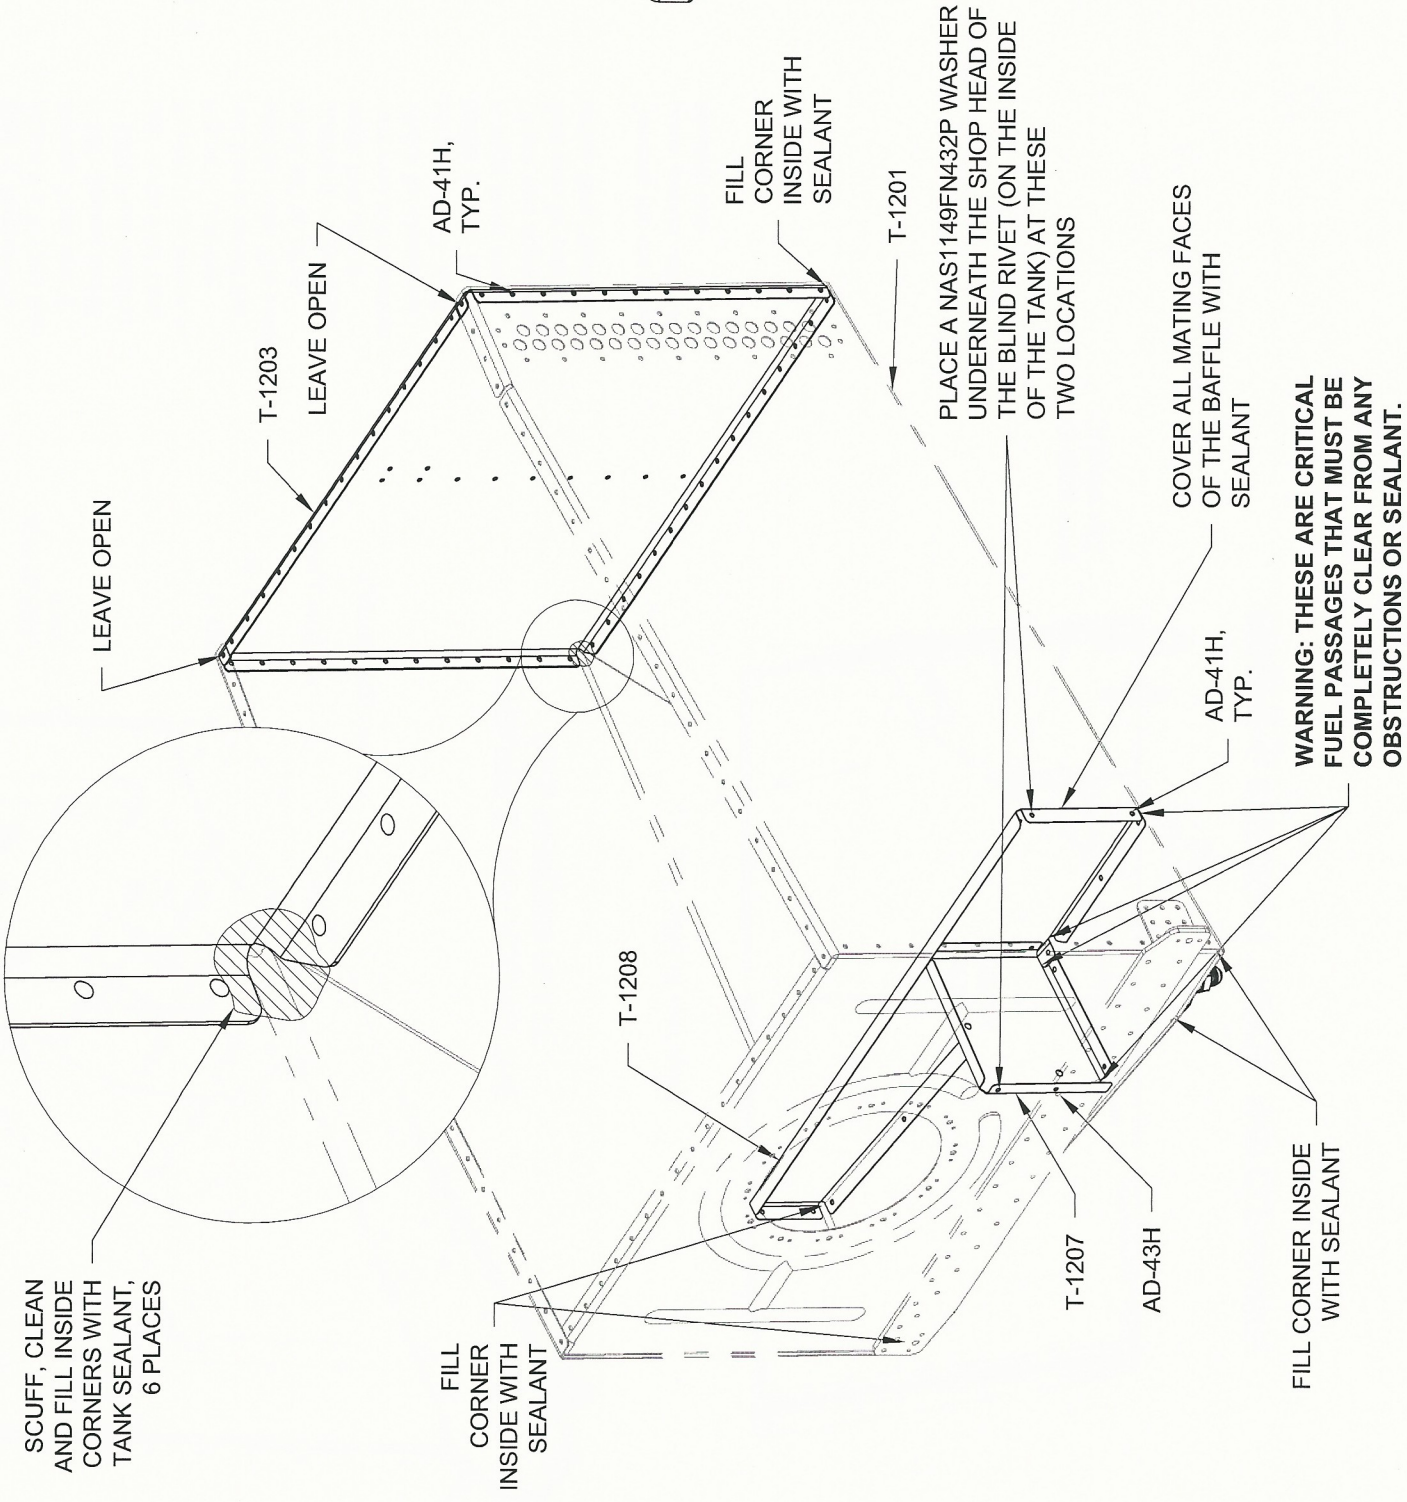
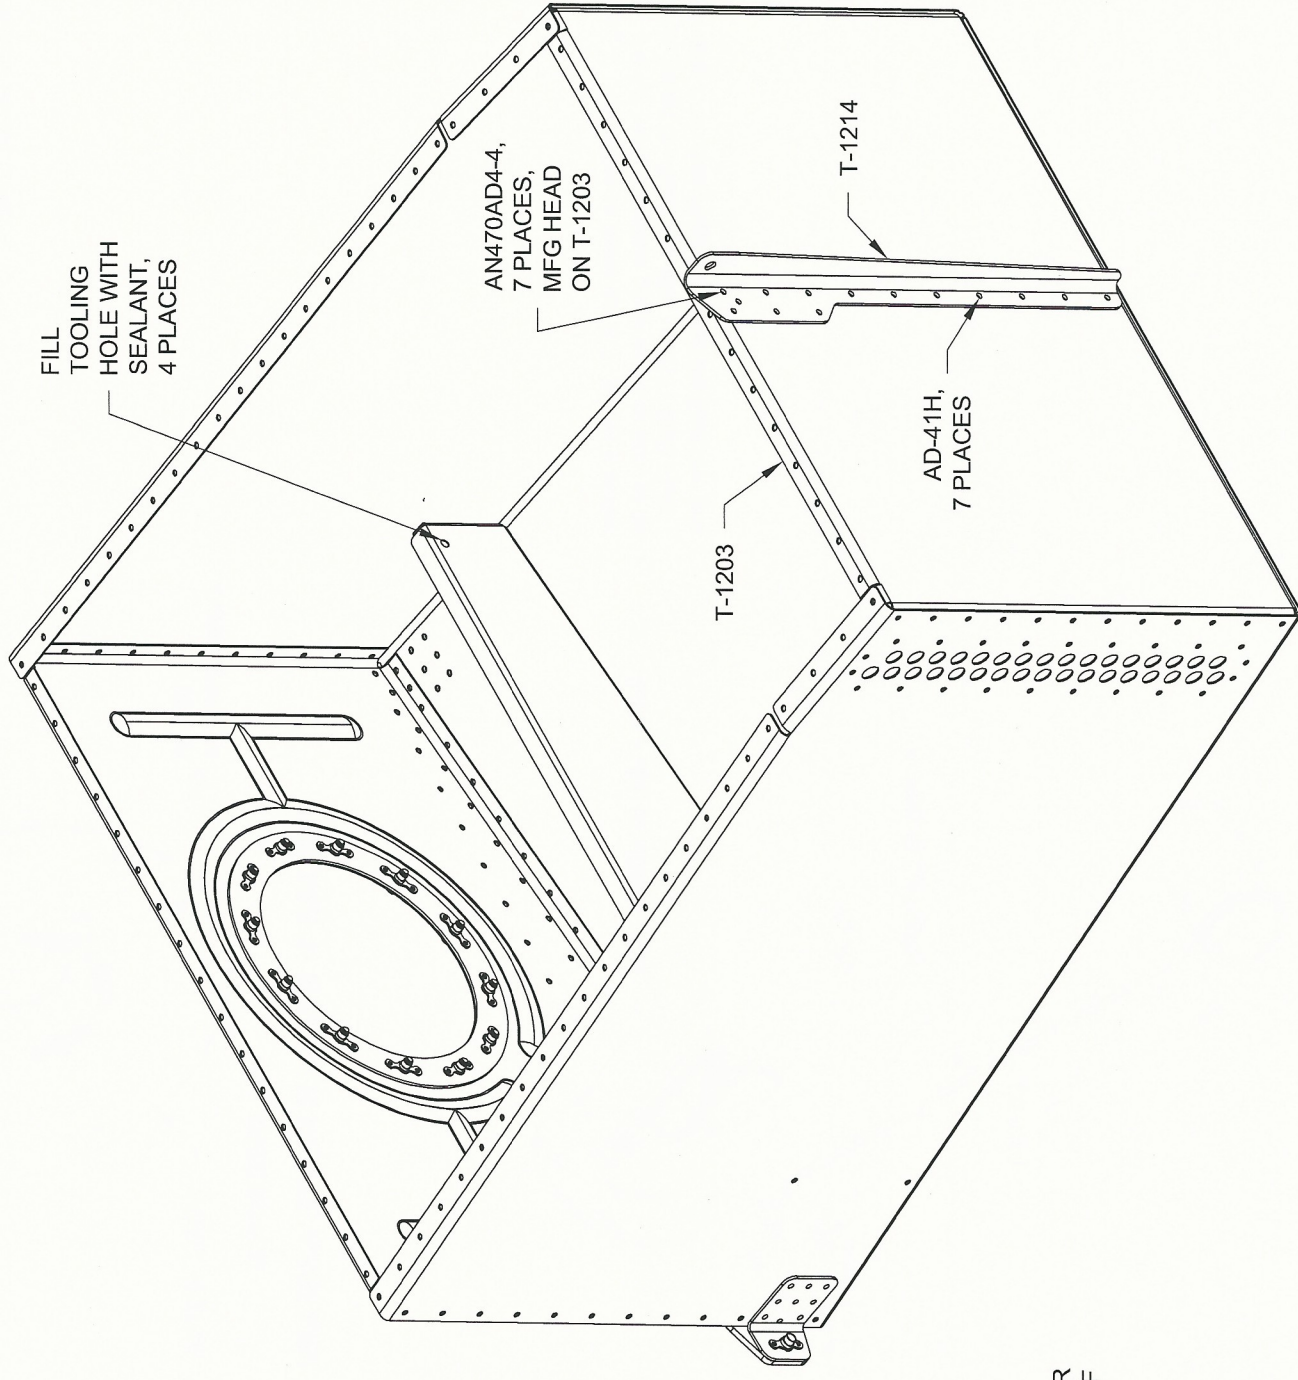

FIGURE 1: BAFFLE AND AFT BULKHEAD
FIGURE 2: INSTALLING THE ATTACH ANGLE
Step 6: Rivet the T-1214 Attach Angle to the T-1203 Aft Tank Bulkhead per the call-outs in Figure 2.
Step 1: Apply sealant to all mating surfaces of the T-1207 Fwd Baffle and T-1208 Baffle then rivet them to the T-1201 Main Tank Skin and rivet them together. Ensure that the two inboard fuel passages of the baffle are free of sealant and that the outboard passage is filled as indicated in Figure 1. Do not apply sealant to the corners of the fwd baffle. Fill the two tooling holes in both of the baffles with sealant as indicated in Figure 2. When finished the only way for fuel, below the top flange of the baffles, to transfer to either side should be through the four critical fuel passages indicated in Figure 1.
Step 2: Rivet the T-1207 Fwd Baffle to the T-1202 Fwd Bulkhead per call-outs in Figure 1.
Step 4: Rivet the T-1203 Aft Tank Bulkhead to the T-1201 Main Tank Skin per the call-outs in Figure 1.
Step 5: Apply tank sealant to the inside bottom corners as shown in Figure 1.